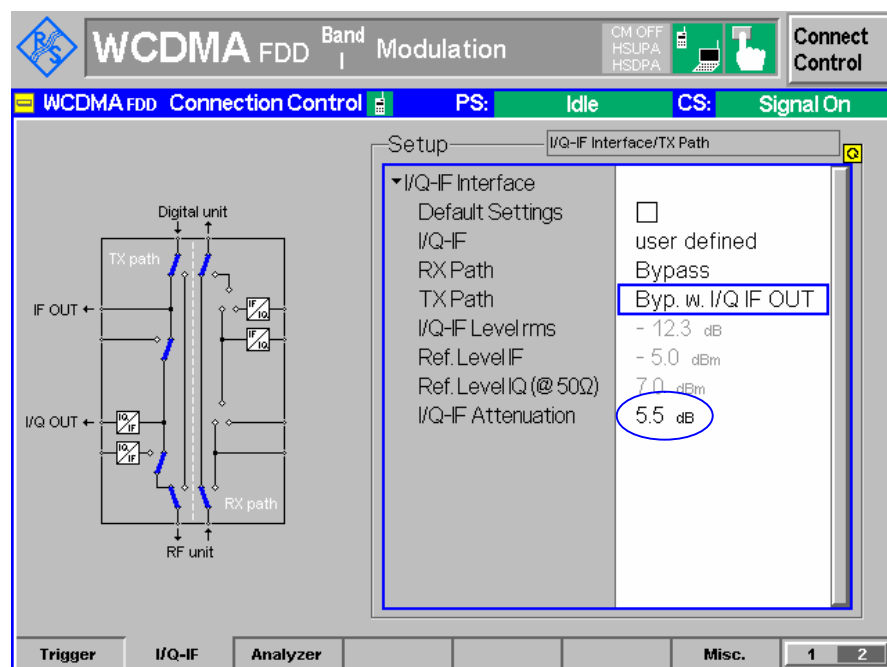

Figure 4.1_1: I/Q path setting on the CMU for WCDMA
2. Set the TX path to *Bypass with I/Q IF OUT*, see Fig. 4.1_1: